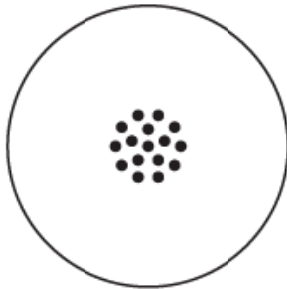
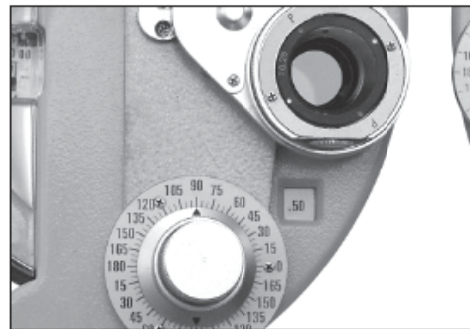
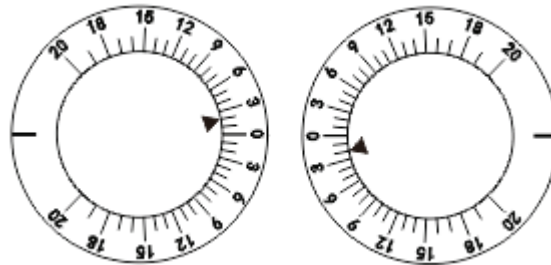

Fig.34
Fig.35
Fig.41
(2) Project the cross cylinder dot chart as shown in Fig.34. Turn rotation knob ⑲ with finger to rotate cross cylindrical lens ㉑. Then ask Testee to compare the two images he sees before and after turning the cross cylindrical lens. Stop at the better side. For example, if what Testee sees is clearest as shown in Fig.35 of cross cylindrical lens, turn cylindrical lens axis knob ㉒ to move axis of cross cylindrical lens by 5° in direction of red dot, so that position of cylindrical lens axis scale ㉓ is positioned at 95° .
(6) Use cross cylinder dot chart shown in Fig.34 with same procedure as described in (2). Now ask Testee to compare the charts he sees. The result is shown as Fig.38. If Testee sees the clearest chart when red dot matches with letter P (as shown in Fig.38), it means Testee's diopter has increased by 0.25D (now Testee's diopter power is 0.75D).
(1) Rotary Prism Method
a. Tests are performed for left and right eyes independently, in which, binocular prism shall be used for both eyes. On the whole, these tests are referred to as the binocular balance test. Set both eyes to O. Use the chart shown in Fig.34 and set prisms as 2ΔU (right eye), and 2ΔD (left eye) (see Fig.41)